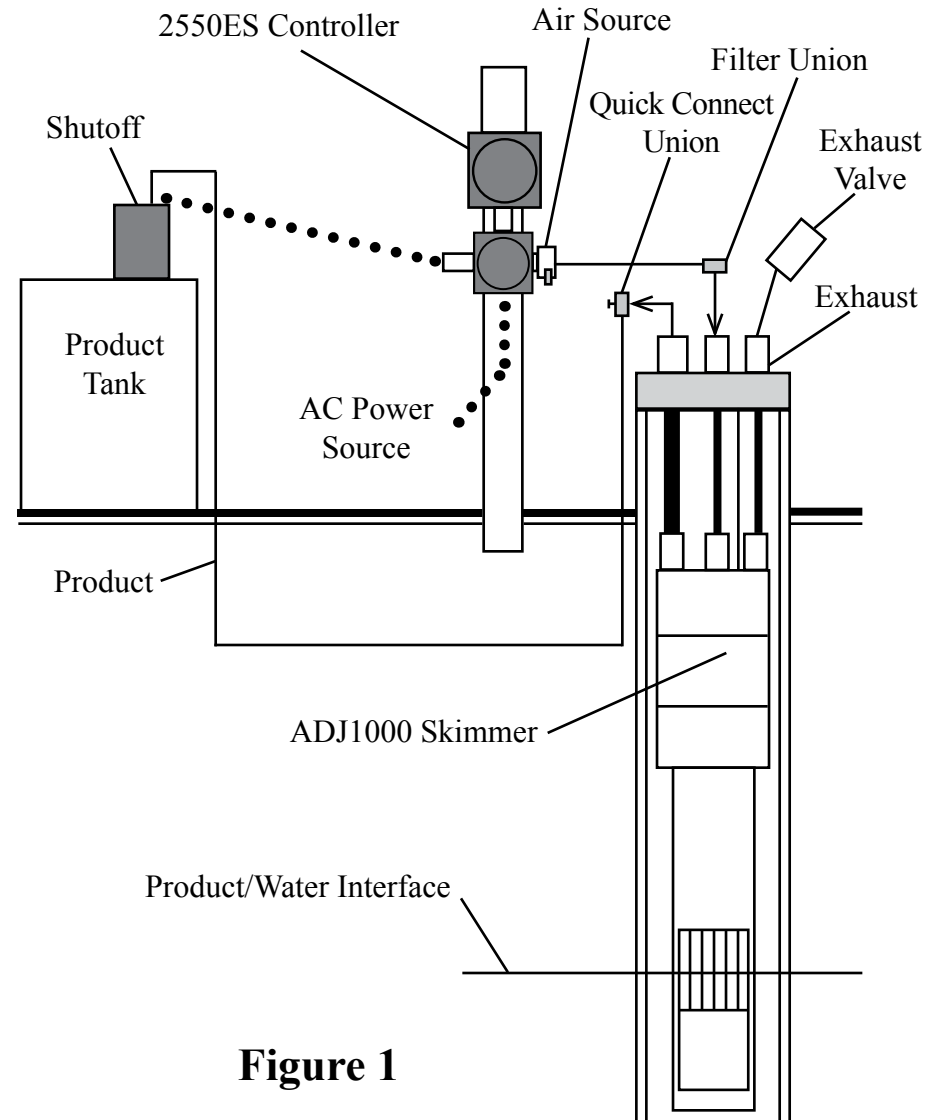
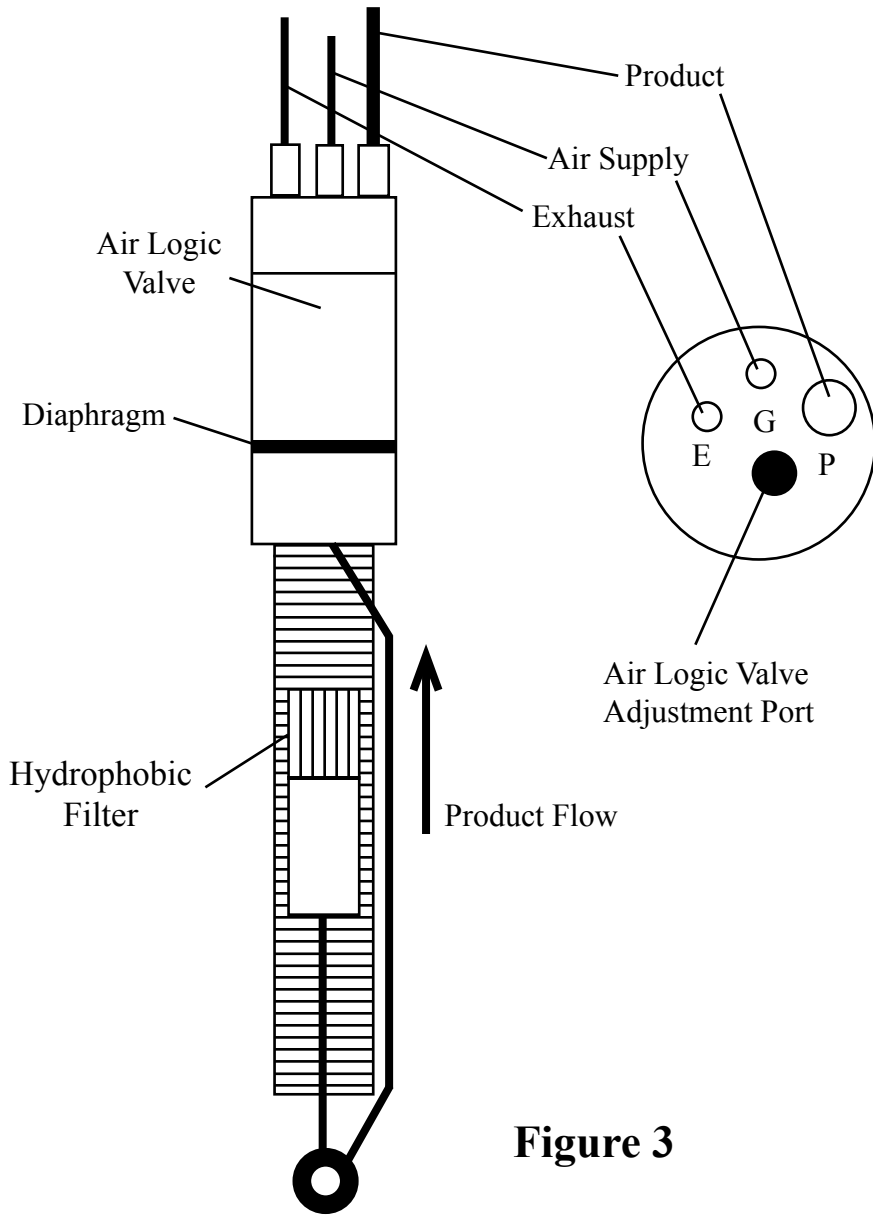

Figure 1
Figure 3
The system (Figures 1 and 2) relates to floating hydrocarbon recovery in wells four inches in diameter and larger. This system includes: an intrinsically safe ADJ1000 pneumatic Smart Skimmer (Figure 3) which removes only product to a sheen up to 200 feet deep; and a two function electronic Class I Controller Model 2550ES for hazardous locations which operates the skimmer intermittently, and has a high level tank shutoff.
STEP 7. Position the skimmer and well cap on the ground near the well. **NOTE:** If the skimmer is over 60 feet deep, use a vented design skimmer. Cut a length of 3/8" OD air supply tubing to cover the distance from the top of the well down to water/product interface, plus 5 feet. Slide enough tubing through the well cap and attach the end of the tubing to the top of the skimmer tube fitting labeled "G" (Figure 3). If the product thickness is greater than 1 foot, position the skimmer's "Black Reference Line" on skimmer well screen 1 foot below top of product. If the product thickness is less than 1 foot, position the skimmer's "Black Reference Line" on skimmer well screen at the water/product interface.
STEP 8. Cut a length of 1/2" OD product tubing same length as the air supply line. Install 1/2" OD product tubing through the well cap tube fitting labeled "P" (Figure 3). Slide enough tubing through the well cap and attach the end of the tubing to the top of the skimmer tube fitting labeled "P". **CAUTION:** Do not kink the tubing.